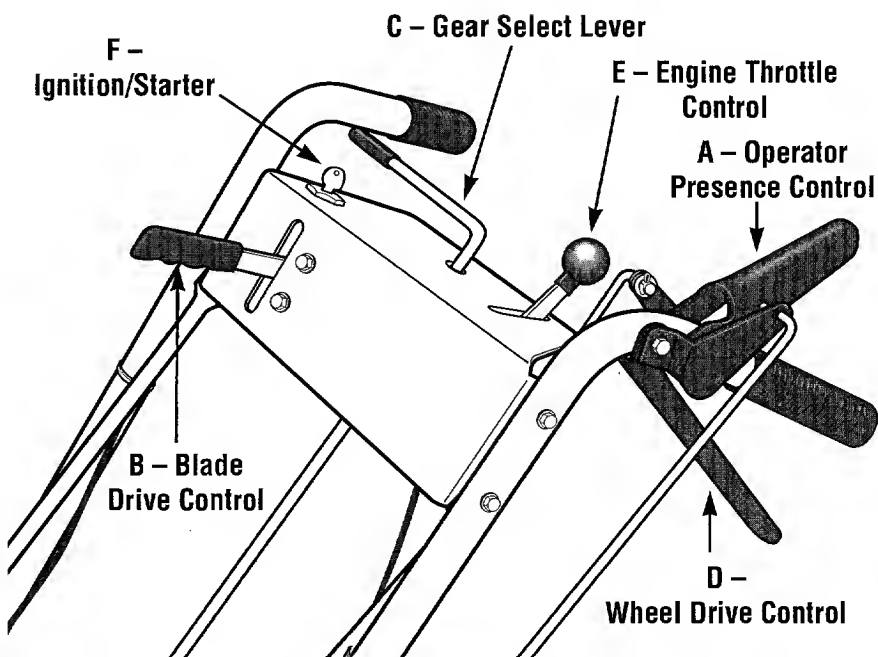

Figure 4-3: Mower Controls
The mower can be manually pushed or pulled by putting the Gear Select Lever (C, Figure 4-3) in N (neutral) and pressing and holding the Operator Presence Control
Control (A, Figure 4-3) down against the handlebar grip.
3. Move Engine Throttle Control (E, Figure 4-3) fully upward to choke setting to start a cold engine or to fast (rabbit) setting to start a warm engine.
B. Turn ignition key (F, Figure 4-3) fully clockwise to crank engine. To avoid damage to starter motor, do not crank engine for longer than five seconds at a time. Also, allow 15 seconds between each start attempt. If engine fails to start after three attempts, repeat instructions starting with Step 2 (try moving throttle to fast setting).
2. Press and hold Operator Presence Control (A, Figure 4-3) against handlebar grip.
3. Slowly push Blade Drive Control (B, Figure 4-3) fully forward until it stays in the engaged position. The blades are now rotating.
- A. Press and hold Operator Presence Control (A, Figure 4-3) against handlebar grip.
- B. Put the Gear Select Lever (C, Figure 4-3) into one of the numbered settings (1 - Slow, 2 and 3 - Medium, 4 - Fast). When first practicing with the mower, put lever in No. 1 setting. Select forward speeds according to mowing conditions and terrain. Use slower speeds on rough terrain or when grass is heavy or thick. The forward speed can be increased on smooth terrain or if the grass cover is light. Allow the wheels to stop completely before shifting from one forward speed into another.
- C. To start the wheels, slowly squeeze the Wheel Drive Control (D, Figure 4-3). The harder you squeeze, the faster the wheels will turn. To avoid sudden acceleration, slowly squeeze the lever.
- A. Stop the mower blades and wheels by releasing the Operator Presence Control (A, Figure 4-3).
- C. Put the Gear Select Lever (C, Figure 4-3) in R (reverse) setting by first moving lever to N (neutral). Then pull lever up, turn it to R position, and release lever.
- D. To start the wheels, slowly squeeze Wheel Drive Control (D, Figure 4-3). To avoid sudden acceleration, slowly squeeze the lever.